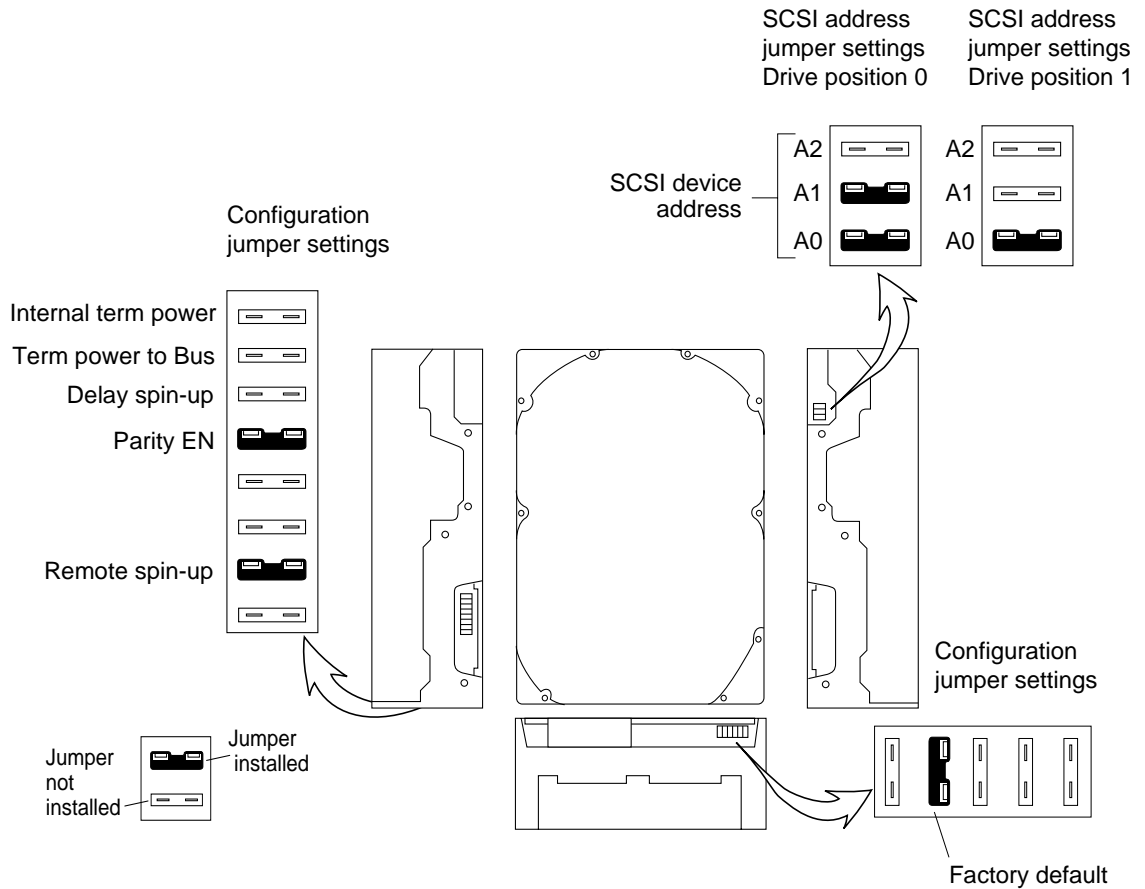

FIGURE 12-5 SCSI Address and Configuration Jumper Settings for 424-Mbyte Drive Position 0 and 1
2. **Compare the SCSI device ID and configuration jumper settings to FIGURE 12-5. Set the jumper settings to match FIGURE 12-5 using needlenose pliers.**